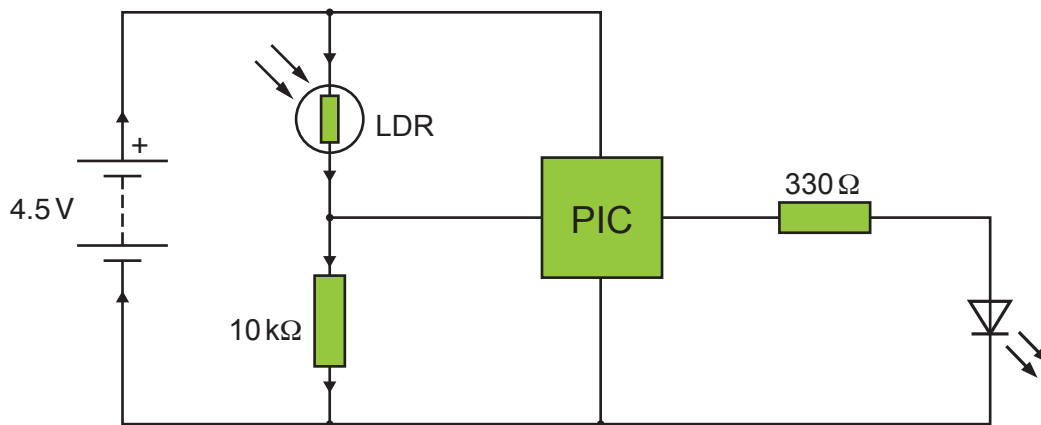
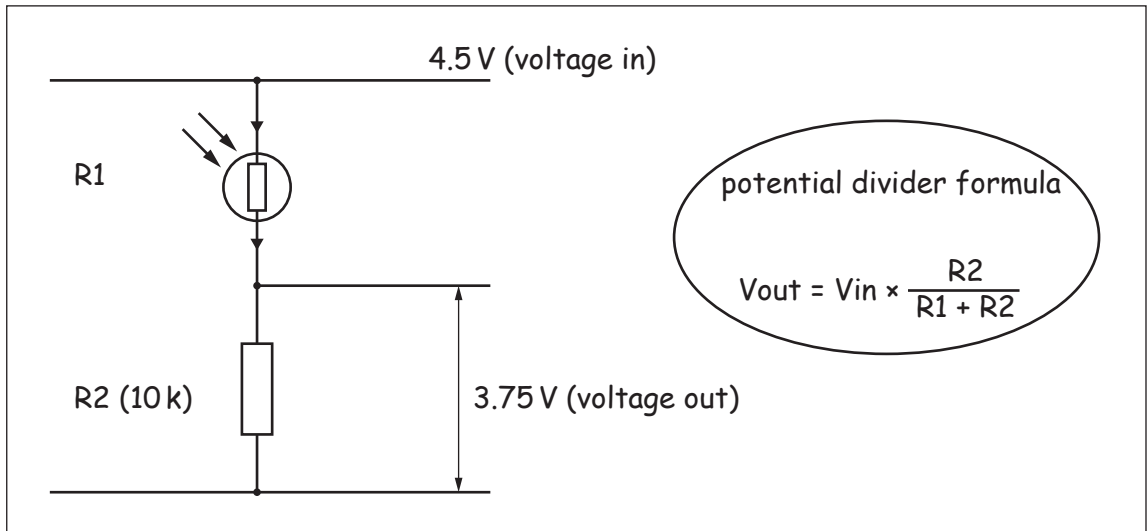

Fig. 3.4
Fig. 3.5
The student wanted to redesign the circuit in **Fig. 3.3** using a microcontroller. The student chose to use only one 3vdc LED as the output in the circuit which is shown in **Fig. 3.4** below.
- (ii) Using the potential divider formula and the student workings shown in **Fig. 3.5**, calculate the resistance of the LDR labelled in **Fig. 3.4** in ohms (Ω) when the output voltage is 3.75 volts. Show your working.